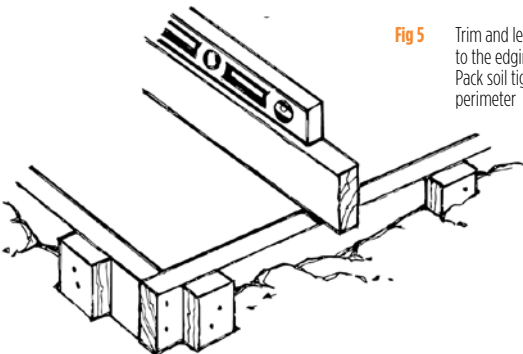

Fig 5 Trim and level off the stakes to the edging board height. Pack soil tightly around the perimeter
- Cut the steel mesh to fit with a 50mm gap between the mesh and the formwork (Fig 6), support the mesh on broken bricks or steel 'bar chairs' to keep it in the middle of the slab. Trim the stakes to the top of the edging boards (Fig5), and pack soil tightly around the perimeter.